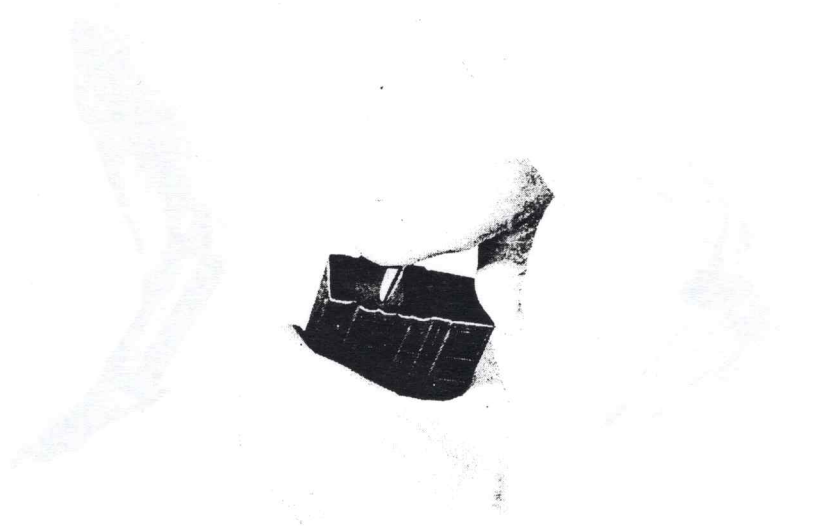

Fig. 74: Remove magazine cover
- Press in safety pin on the subcalibre magazine cover by means of a small piece of wood, turn magazine cover to the right and remove it (Fig. 74).